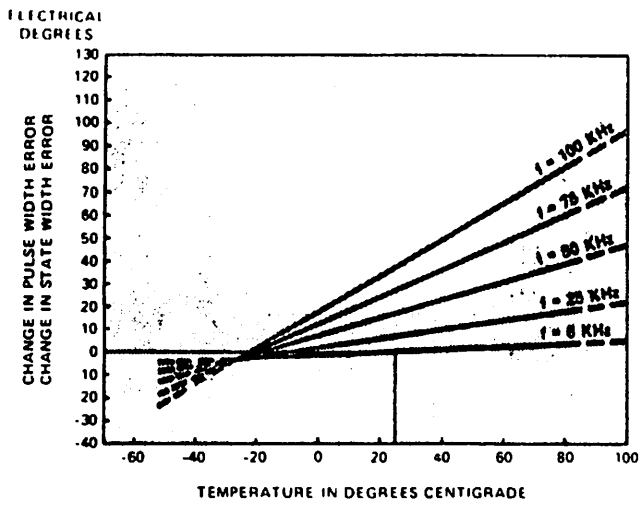

Figure 1. Typical Change in Pulse Width Error or In State Width Error due to Speed and Temperature
- In a properly assembled lot 99% of the units, when run at 25 °C and 8 KHz, should exhibit a pulse width error less than 35 electrical degrees, and a state width error less than 45 electrical degrees. To calculate errors at other speeds and temperatures add the values specified in Figures 1 or 2 to the typical values specified under encoding characteristics or to the maximum 99% values specified in this note.